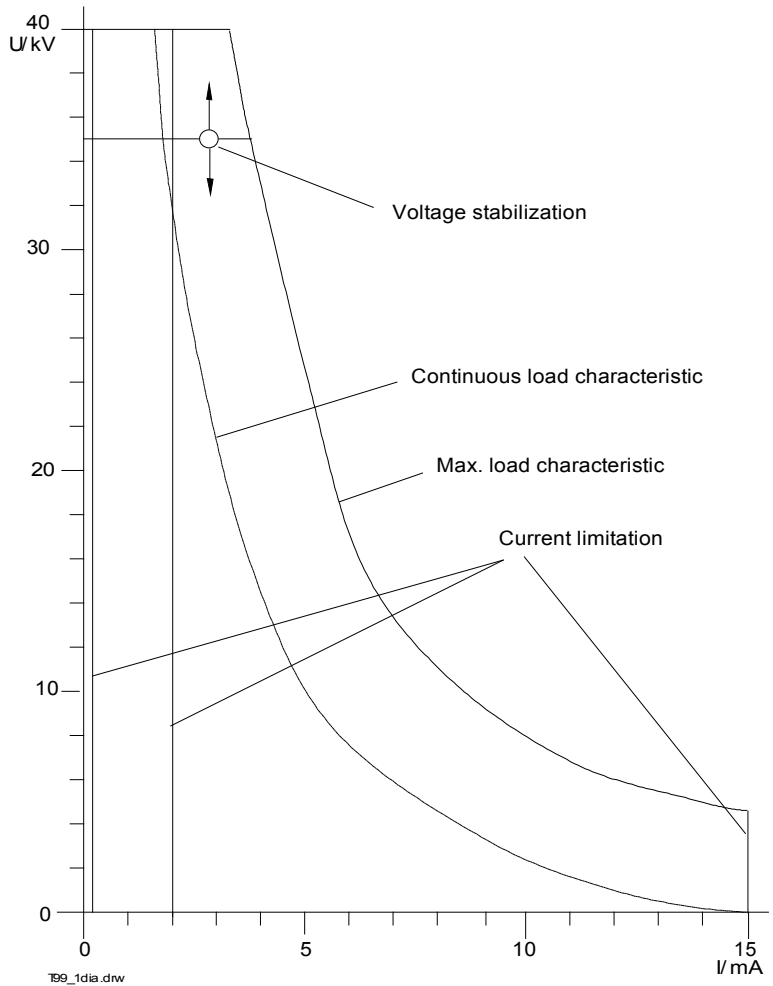

Fig. 1 Current-voltage characteristic, T 99/1
Fig. 1 shows the current-voltage characteristic for the test set.
- When measuring has been completed, turn the test set off with switch (17).
If the test set is operated in the overload range (see fig. 1) for an extended period, the high voltage may shut down. If this happens, lamp (16) will light up. The high voltage can only be switched on again once the test set has cooled down sufficiently.